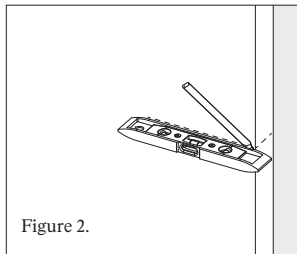

Figure 2.
- 1.2 Using a spirit level, mark the door at the desired height, continuing the line from the front of the door, around the edge and onto the back of the door. Figure 2.